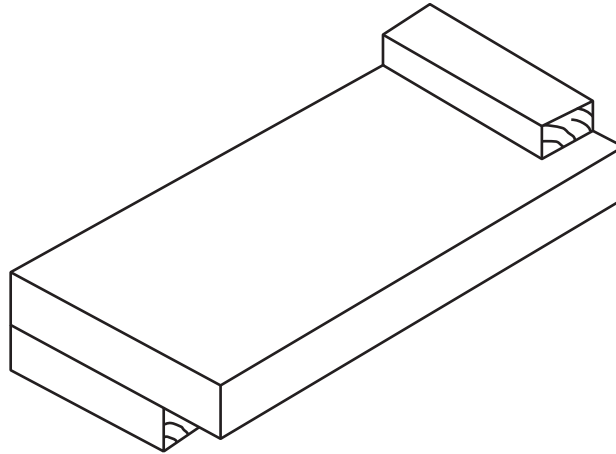

Fig. 3
- 3 **Figure 3** shows a common woodworking equipment used in a workshop.
- (a) Name the equipment shown in **Figure 3**.
- (b) Evaluate the use of the equipment shown in **Figure 3**.